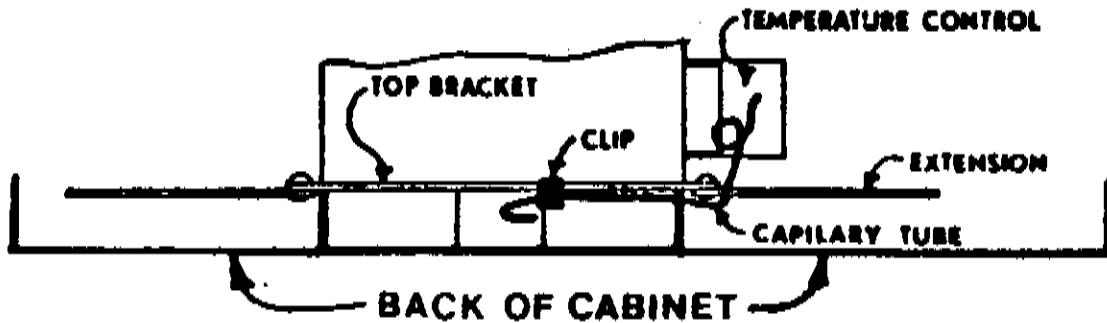

FIG. 23
- b) THERMOSTAT FEELER BULB POSITION: In new production, as well as when replacing a refrigeration unit, it is possible to "distort" the position of the thermostat feeler tube. The feeler tube should be positioned as shown in FIGURE 23. It must not touch the rear cabinet wall or evaporator shield except at the retainer clip. The clip should be near the center of the evaporator.